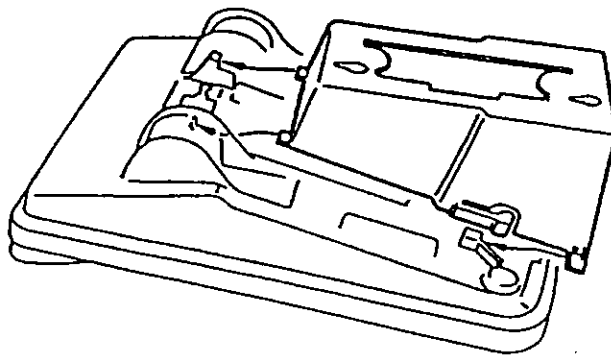

Figure 1-59 Mounting the Multiline Terminal to the WMU-W (GG) Unit
5. Mount the telephone onto the wall mounting unit by aligning the notches on the bottom of the Multiline Terminal with the rails on the wall mounting unit. (Refer to Figure 1-59 - Mounting the Multiline Terminal to the WMU-W (GG) Unit.)